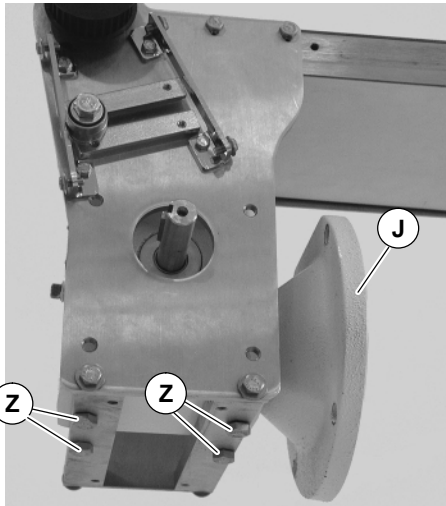

Figure 28
5. Remove four (4) gear reducer mounting screws (Z of Figure 28). Remove gear reducer.